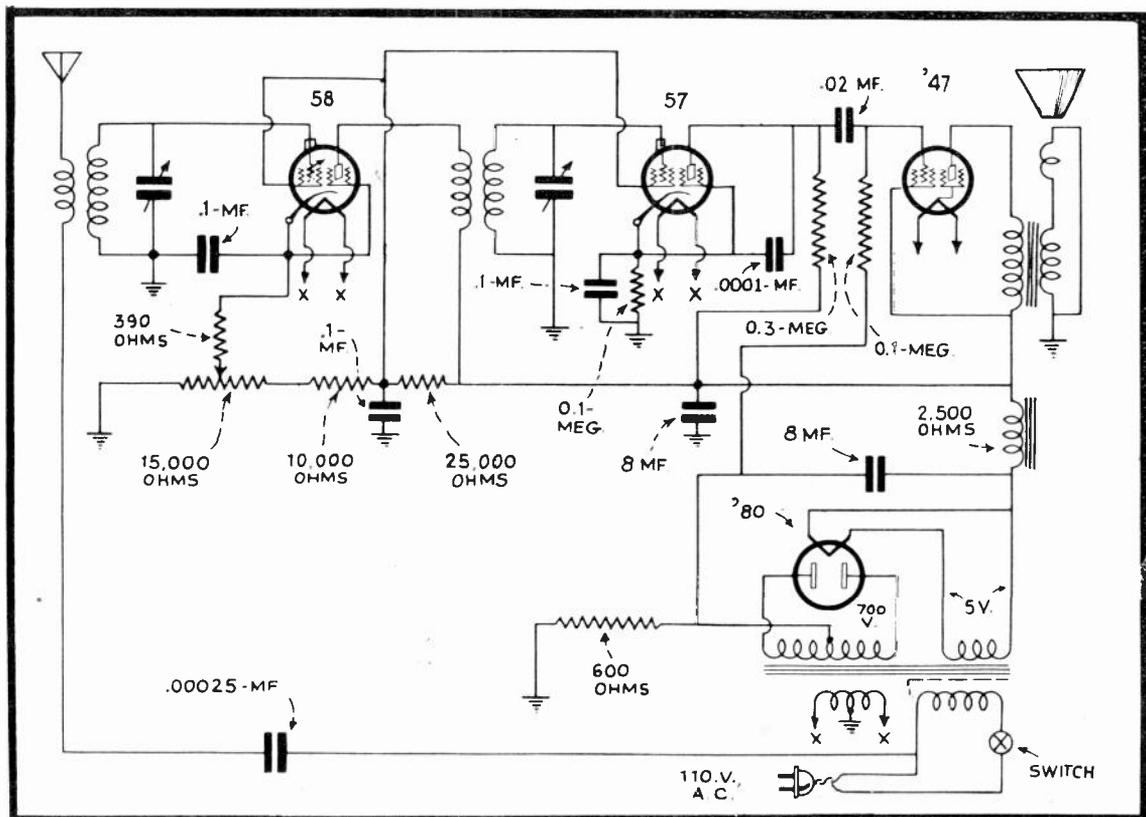

FIG. 10
THE MIDGET RECEIVER CIRCUIT, WHICH IS ILLUSTRATED FOR YOU IN FIG. 10, USES A TYPE -58 R.F. TUBE, A -57 POWER DETECTOR, A -47 POWER TUBE AND AN -80 RECTIFIER--MAKING FOUR TUBES IN ALL. THIS RECEIVER EMPLOYS A TWO-GANG CONDENSER FOR TUNING.
8. - HOW IS THE RECEIVER GROUND CONNECTION MADE IN THE CIRCUIT WHICH IS SHOWN IN FIG. 10 OF THIS LESSON?